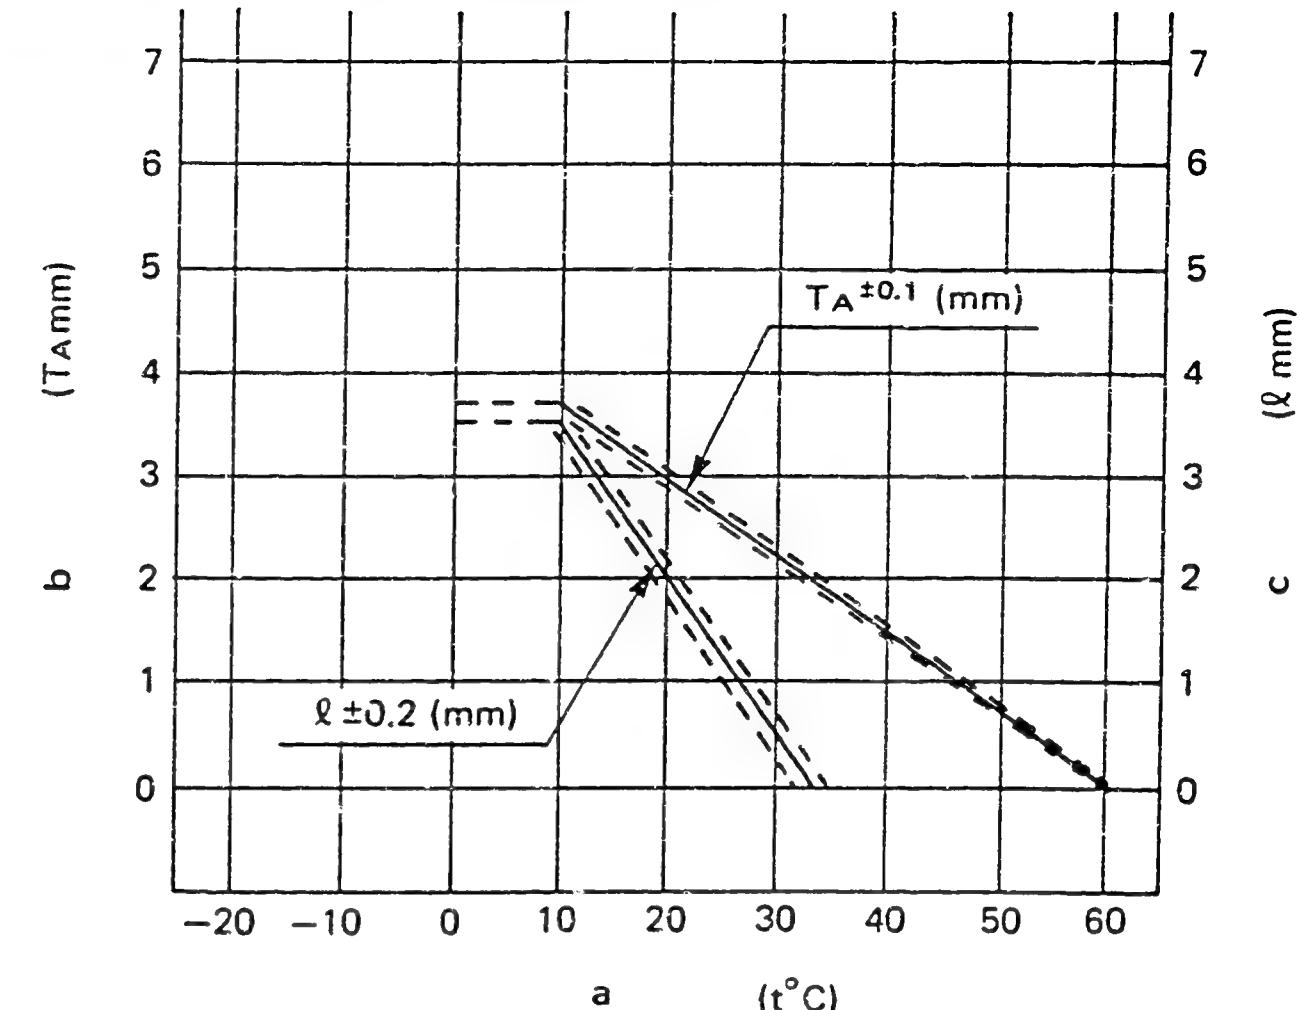

Fig. 21
- 1) Using the graph (Fig. 21), determine the timer stroke according to the atmospheric temperature at the time of adjustment.
- 2) From Fig. 21 determine the dimension of the gap between the idling lever pin and the control lever according to the atmospheric temperature at the time of adjustment.